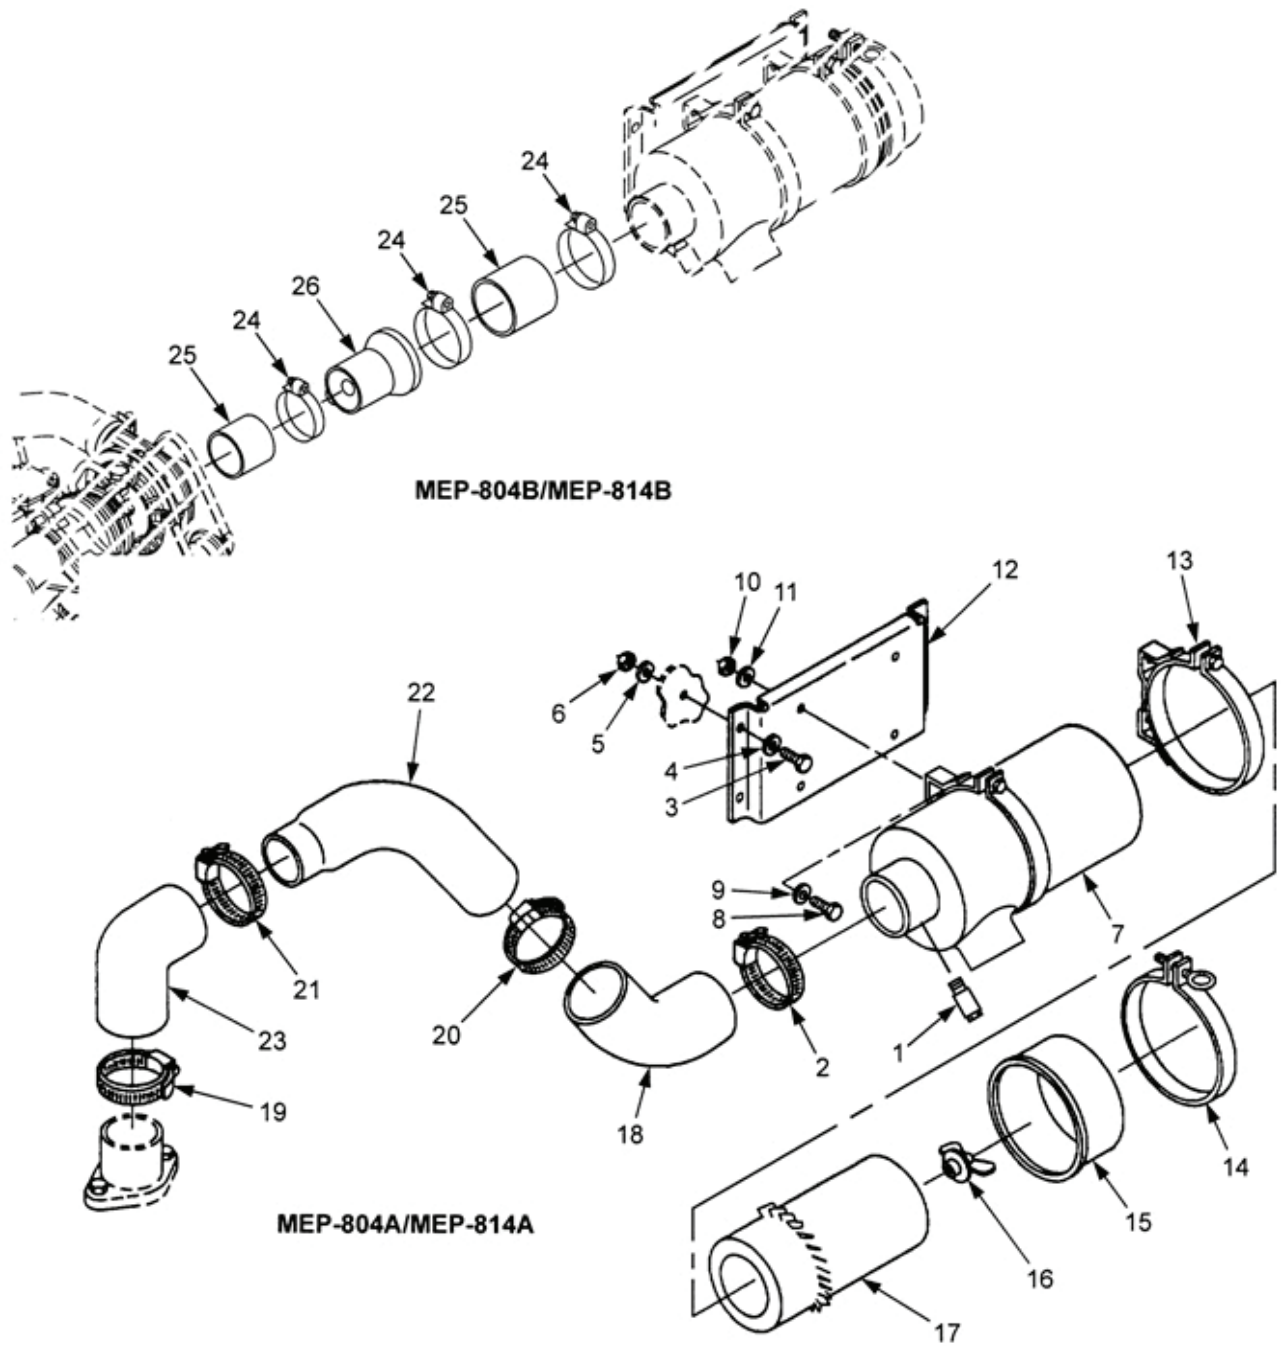

Figure 2-22. Air Cleaner Assembly.
- c. Inspect air restriction indicator (1, Figure 2-22) for cracks, stripped threads, or other obvious damage. Close engine access door.
- c. Unscrew air restriction indicator (1, Figure 2-22) from air cleaner housing (7).
Install air restriction indicator (1, Figure 2-22) on air cleaner housing (7). Hand tighten only. Close engine access door.
- d. Loosen clamp (2, Figure 2-22) and remove hose (18) from air cleaner housing (7).
- e. Remove bolts (3), washers (4), lock washers (5), nuts (6), mounting bracket (12), and air cleaner assembly from generator set. Discard lock washers (5).
- f. Remove bolts (8), washers (9), nuts (10), lock washers (11), and mounting bracket (12) from air cleaner assembly. Discard lock washers (11).
- g. Remove and retain clamps (13) if replacing air cleaner.
- a. Install clamps (13, Figure 2-22) on air cleaner housing (7), if removed.
- b. Install mounting bracket (12) on air cleaner assembly with bolts (8), washers (9), new lock washers (11), and nuts (10).
- c. Install air cleaner assembly and mounting bracket (12) on generator set with bolts (3), washers (4), new lock washers (5), and nuts (6).
- d. Install hose (18) and clamp (2) on air cleaner housing (7).
- e. Tighten clamp (2).
- d. Loosen clamp (24, Figure 2-22).
- a. Installed clamps (13, Figure 2-22) on air cleaner housing, if removed.
- b. Install mounting bracket on air cleaner assembly with bolts (8), washers (9), new lock washers (11), and nuts (10).
- d. Tighten clamp (24).
- c. Loosen clamp (14, Figure 2-22) and remove cover (15) from air cleaner housing (7).
- d. Remove wing nut (16) and air cleaner element (17) from air cleaner housing (7).
- c. Inspect element (17, Figure 2-22) for debris and damage. Replace, as necessary.
- d. Wipe inside of air cleaner housing (7) with cleaning cloth (Item 7, Appendix C).
- a. Install air cleaner element (17, Figure 2-22) in air cleaner housing (7).
- b. Tighten wing nut (16).
- c. Install cover (15) on air cleaner housing (7).
- d. Tighten clamp (14). Close air cleaner access door.
- c. Loosen clamps (2 and 19, Figure 2-22).
- a. Connect hoses (18 and 22, Figure 2-22) with clamp (20). Do not tighten clamp.
- b. Connect hose (22) to hose (23) with clamp (21). Do not tighten clamp.